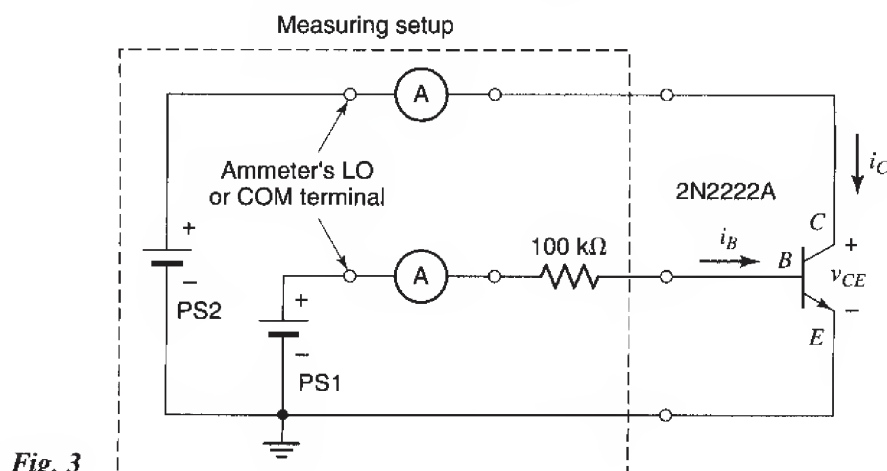

Fig. 3
1. You will measure the transistor characteristics, using the setup in Fig. 3. The part labeled "Measuring setup" is a piece of instrumentation designed for making transistor measurements. The voltage of PS1 is used for varying the base current,  $i_B$ . The resistor is used for limiting this current (connecting PS1 directly across the base-emitter would be risky since the base current depends exponentially on the base-emitter